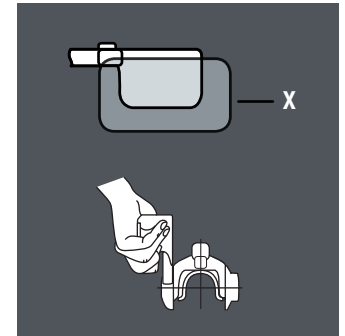
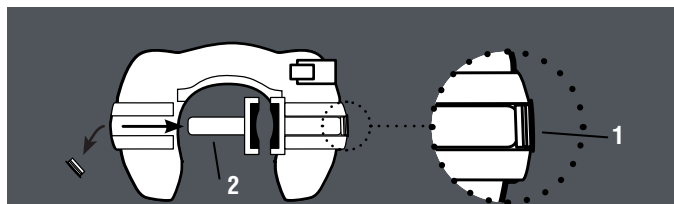

Fig 15
Fig 17
When opening or closing the stabilising lever, care should be taken not to trap fingers between the lever and the coupling handle (Fig 15). See grip areas (Fig 15). When applying the stabiliser lever some resistance should be experienced. Should this not be the case, then the handwheel may be jammed.
- 2 Areas may only be covered with a thin film of grease (Fig 15 & 16). Remove both friction pads (Fig 17) and lubricate the post only. Lever arm joint should also be lubricated regularly.
Loosen retaining ring (Fig 17/Item 1) with pointed object. Push out friction pad (Fig 17/ Item 2) from outwards to inwards. Only replace one pad at a time. Fit new pad, replace ball race and secure with a new retaining ring. Proceed in the same way on the other side. Remember, if any washers come away with the pad, please replace on the new pad.